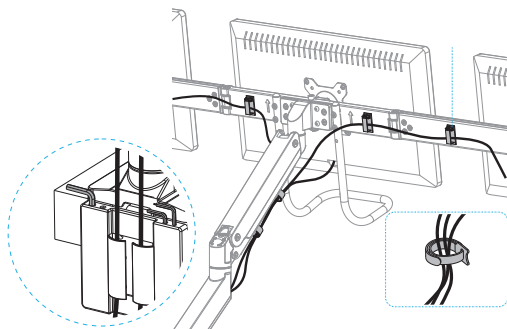

Figure 26
- (Optional) Use the **Hook and Loop (Spring Arm)** to create **Cable Bundles** under the **Spring Arms** and **Swivel Arms**. (Figure 26)